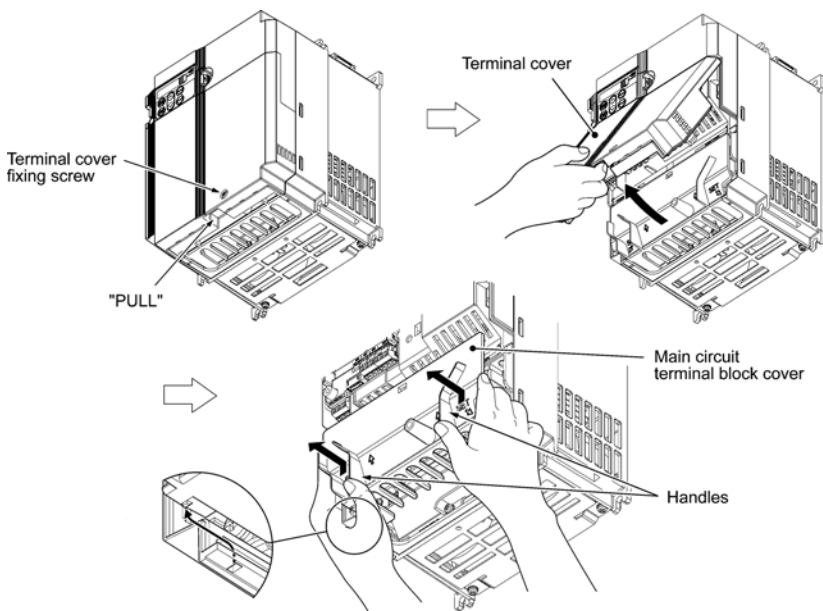

Figure 2.5 Removing the Covers (For Inverters with a Capacity of 7.5 and 10 HP)
(2) For inverters with a capacity of 7.5 and 10 HP
- ① To remove the terminal cover, first loosen the terminal cover fixing screw on it, and put your finger in the dimple of the terminal cover (labeled "PULL"), and then pull it up toward you.
- ② To remove the main circuit terminal block cover, put your thumbs on the handles of the main circuit terminal block cover, and push it up while supporting it with your fingers. (Refer to Figure 2.5.)